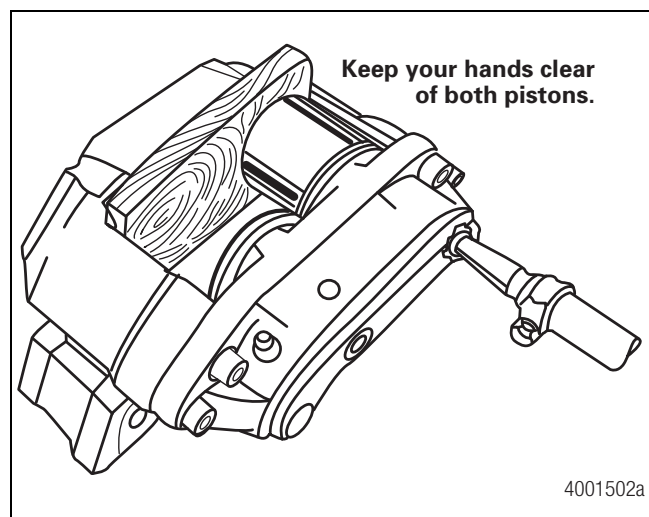

Figure 3.4
3. Use a block of wood to prevent the pistons from hitting the caliper bridge when you remove them. Figure 3.4.